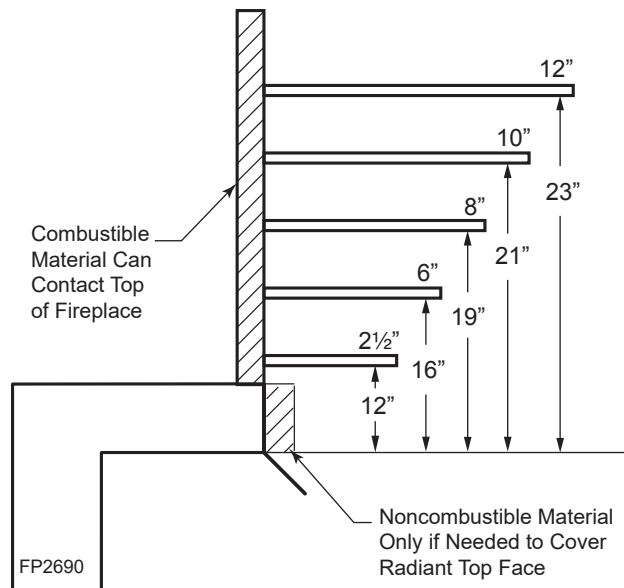

Figure 5 -
- 4. **Mantel clearances:** The canopy supplied with the unit must be installed. If a combustible mantel is installed, it must meet the clearance requirements as shown in *Figure 5*. However, if lower mantel height is desired, refer to *Figure 6*.